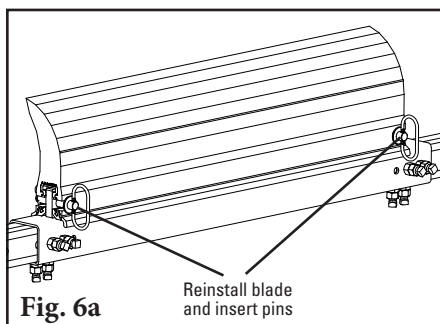
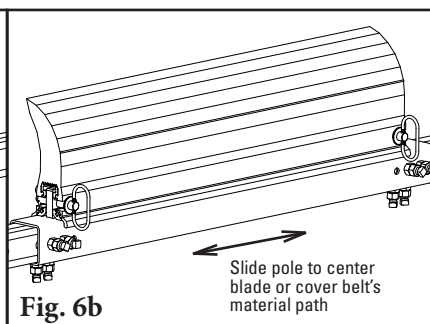
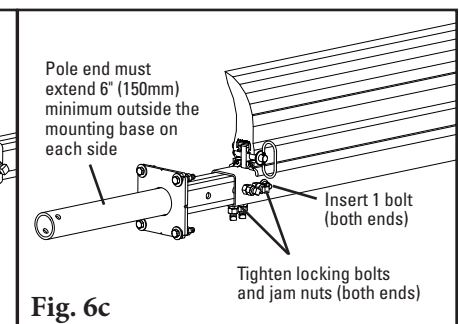

Fig. 6a
Fig. 6b
Fig. 6c
6. **Center the cleaner on the belt and lock in place.** Reinstall the blade (Fig. 6a). Slide the pole until the blade is centered or covers the material path (Fig. 6b). **NOTE:** Standard blade coverage is belt width minus 6" (150 mm). If less blade coverage is required, there are additional blade hole positions available on the pole for use of belt width minus 12" and 18" (400 mm and 450 mm). Adjust the extender poles until the pole ends extend out past the mounting plates at least 6" (150 mm) on each side for the tensioner installation (Fig. 6c). Slide the extender poles in the center pole to align with the center pole mounting holes and insert both bolts. Lock the four center pole locking bolts and tighten the locking bolt jam nuts.